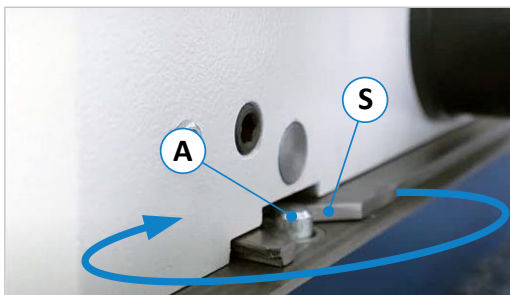

Figure 24: Lock and engage
- To ensure parallelism with the machine table, turn the fence slightly until the centring pins (Z) on the underside of the fence (hidden in the view) engage in the holes (B) on the machine table (see ⇒ Figure 24). A slight click can be heard.